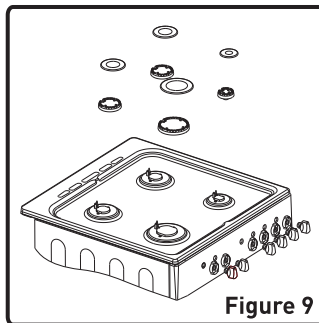

Figure 9
- Remove the burner cap and the upper burner (figure 9).